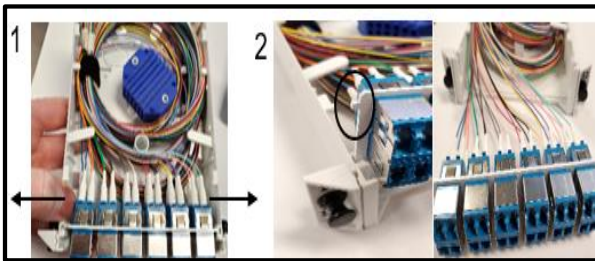

Figure 5
5.3 Each Fox Cassette faceplate is easily removed in two steps. See Figure 5.